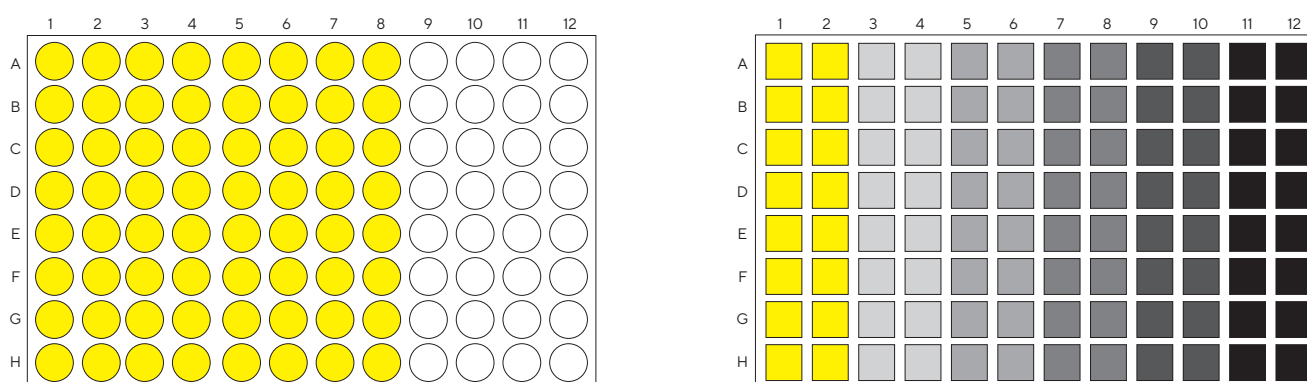

Figure 4: Sample and biosensor plate layout (left and right respectively) for the precision assay.
2. Pipette standards, controls and samples into a black polypropylene microplate (see Figure 4 for a sample plate layout).
5. Set up a Basic Quantitation assay according to the Octet® BLI Discovery Software User Guide. See Table 3 for assay setup parameters, and Figure 4 for example plate maps.